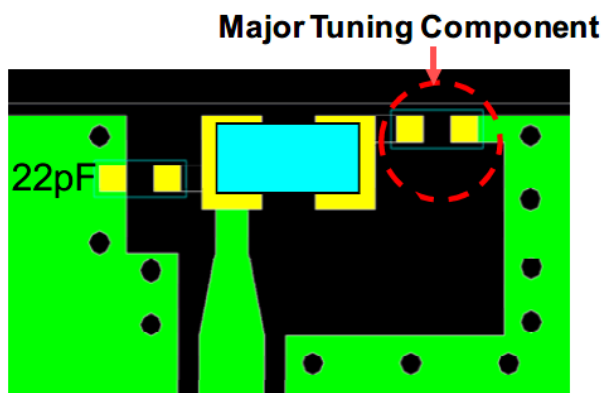

Figure 23
- The frequency can be tuned across a broad range by changing the Capacitor value, see Figure 23 to the right.